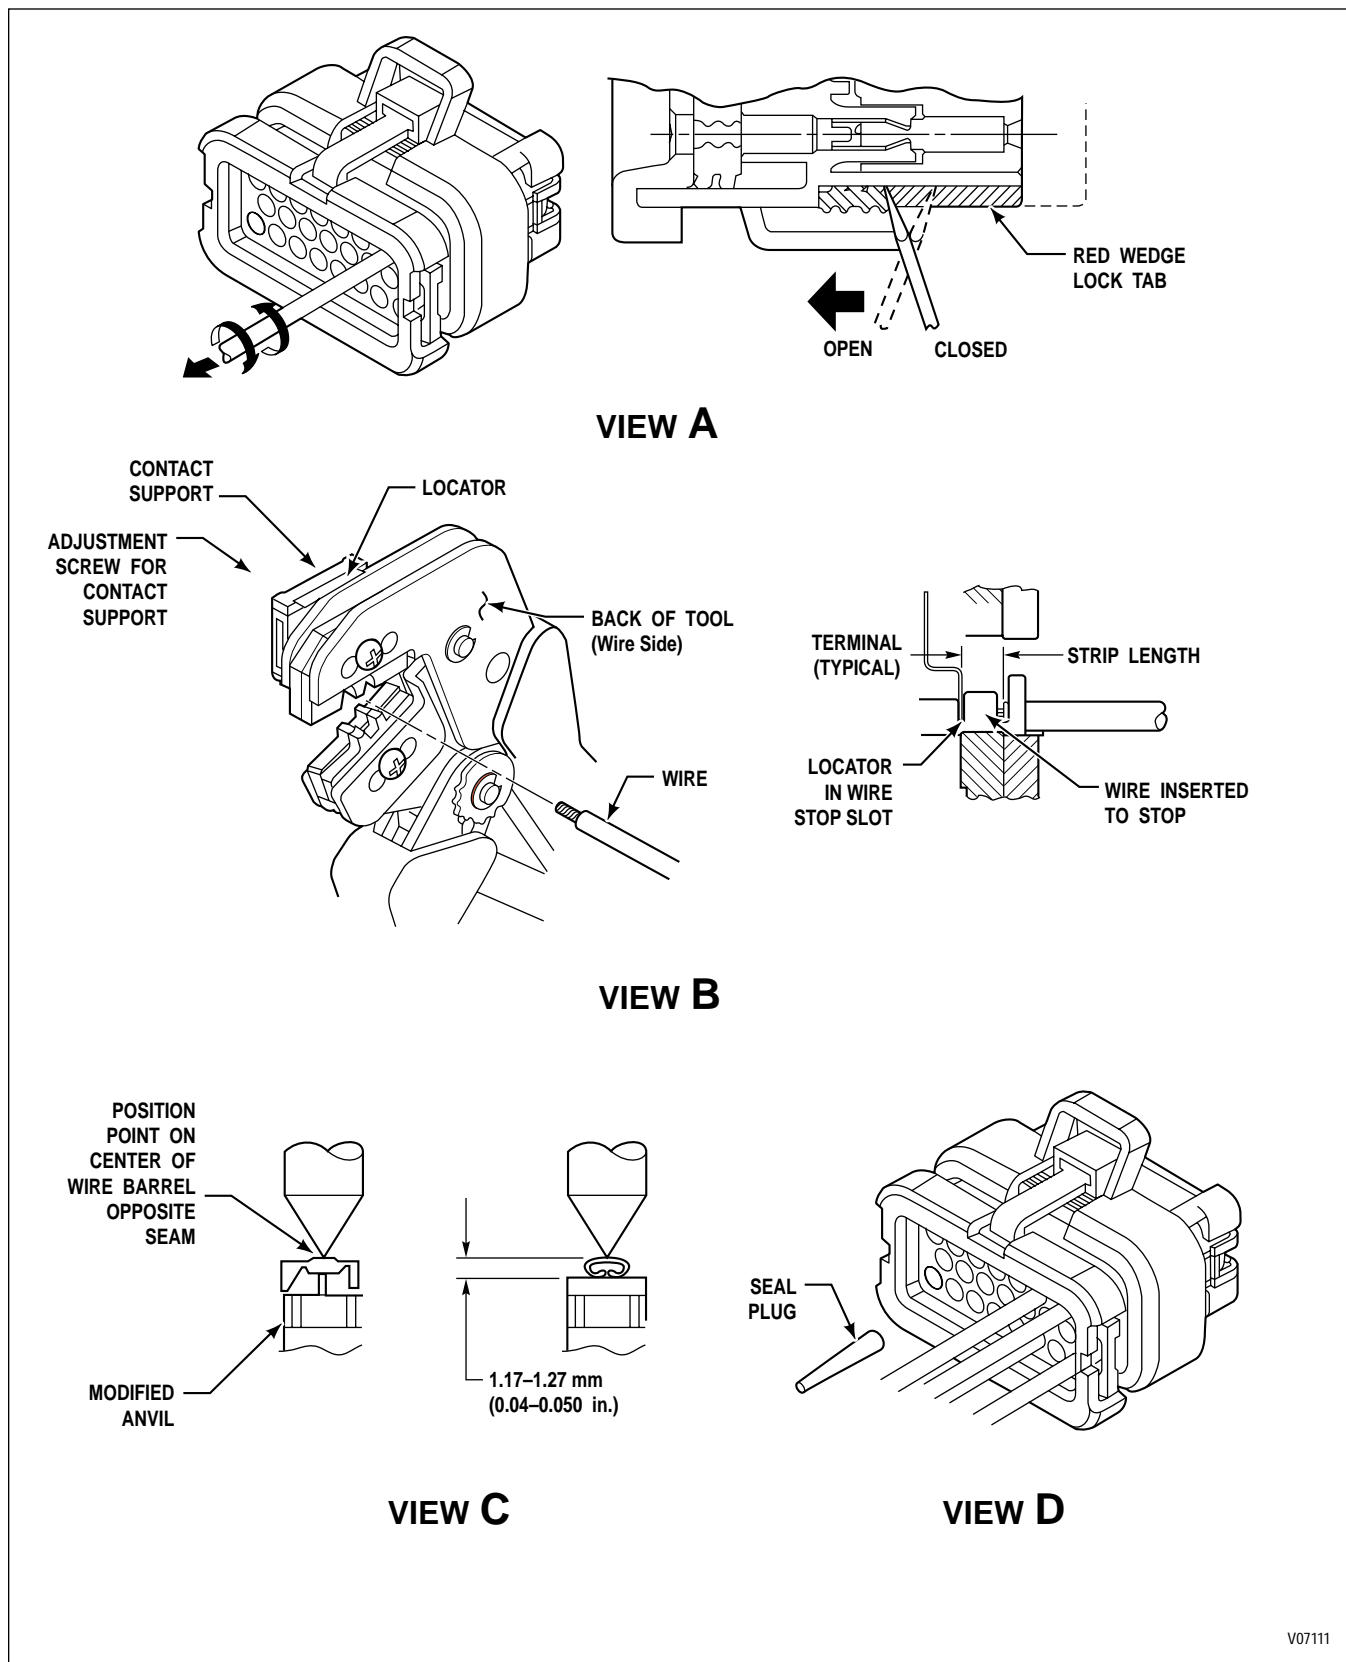

Figure E-14. AMP MATE-N-LOK II Connector (Compact Shift Selector)
B. Terminal Removal (Refer to Figure E-14, View A)
C. Terminal Support Adjustment (Figure E-14, View B)
D. Terminal Crimping Using AMP PRO-CRIMPER II (Refer to Figure E-14, View B)
D. Terminal Crimping Using AMP PRO-CRIMPER II (Refer to Figure E-14, View B) (*cont'd*)
8. Be sure the finished crimp meets the size requirements shown in Figure E-14, View C.
1. Be sure the red wedge lock is in the open position (Figure E-14, View A).
NOTE: *As the terminal is pushed through the wire seal it perforates the diaphragm on the seal. If an unused location is accidentally perforated, install a P/N 770678-1 Seal Plug (large end first) as shown in Figure E-14, View D.*